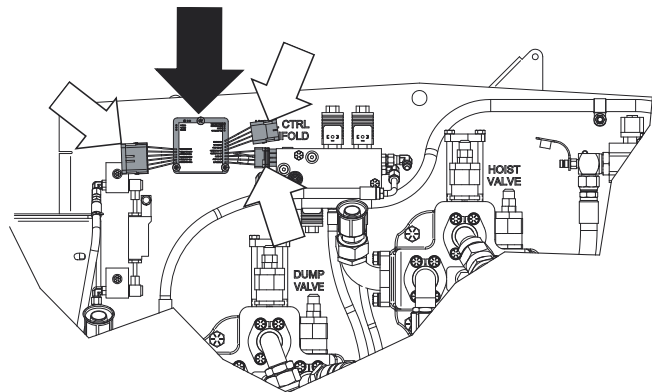
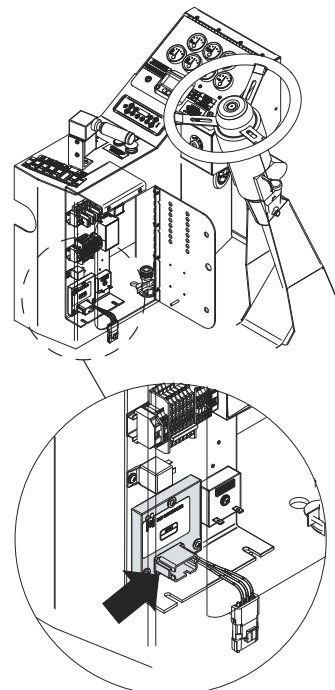

Figure 5-1-4 Hydraulic Fan Controller located on valve plate behind cab.
Figure 5-1-5 Radiator Fan Controller located in Control Console.
- Disconnect hydraulic fan controller (see Figure 5-1-4) and radiator fan controller (see Figure 5-1-5).